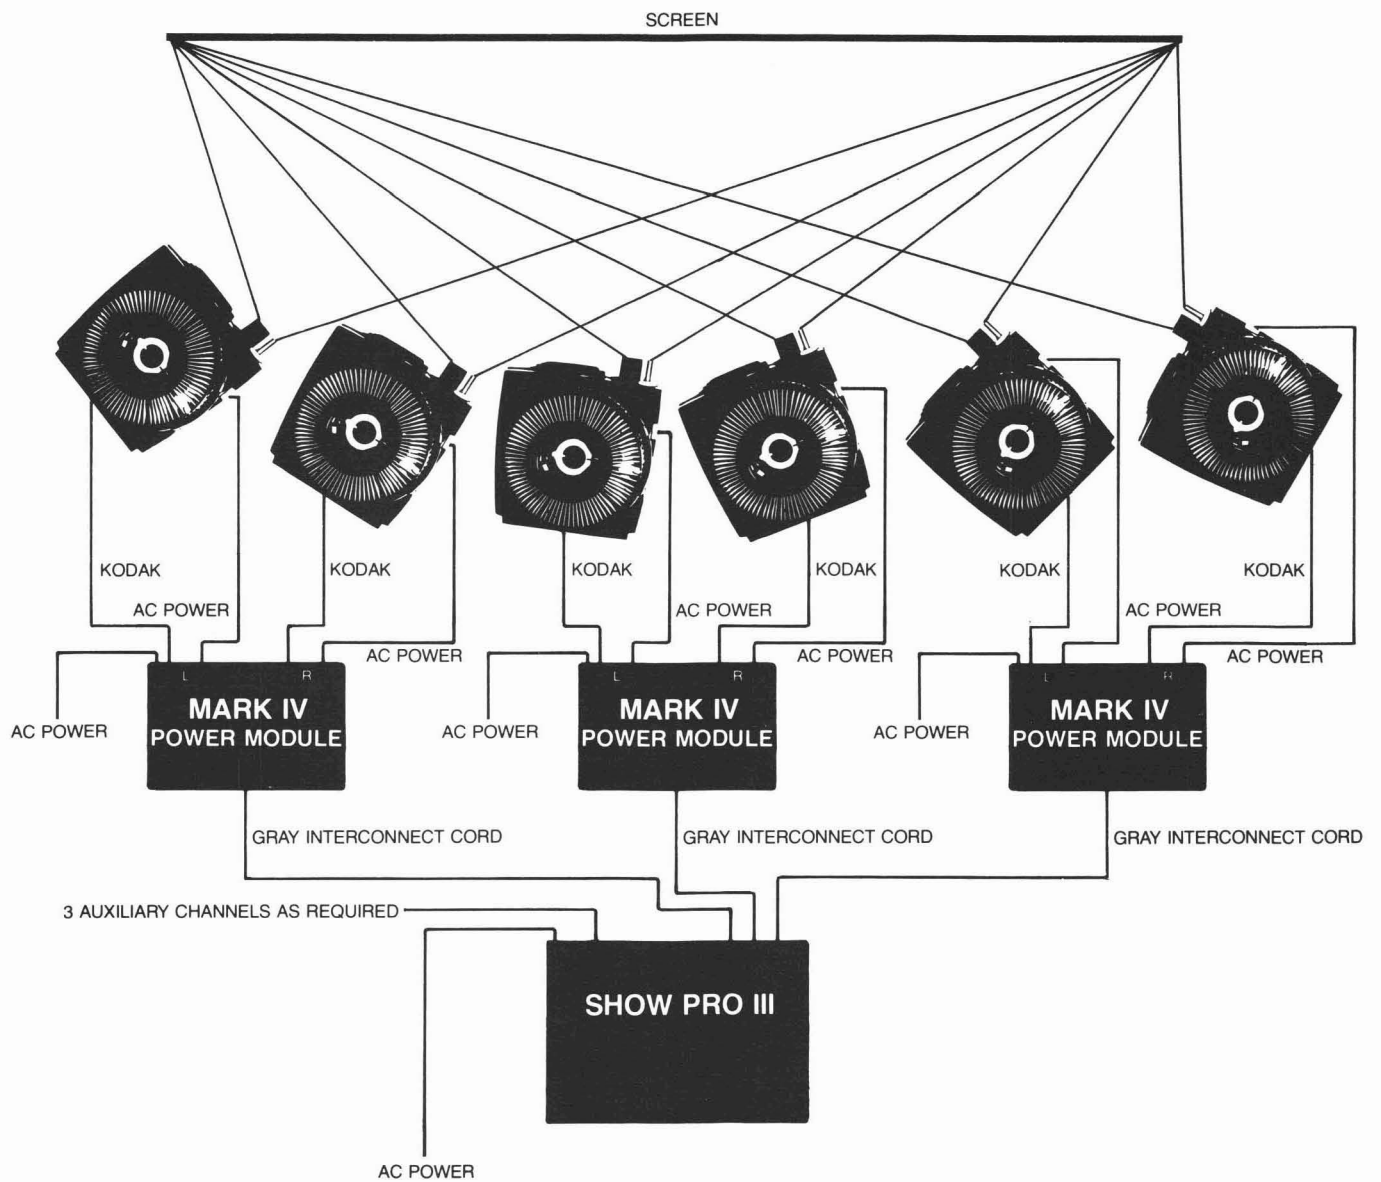

Figure 4
- One screen with up to six projectors focused on it **(Figure 4, page 12)**